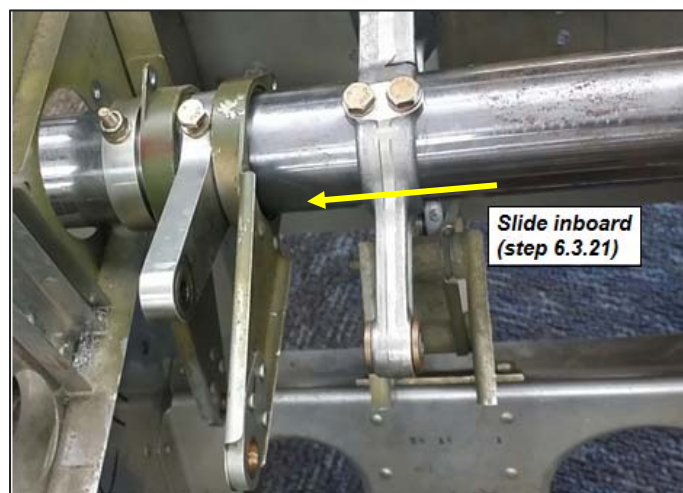

Figure 14. Torque Tube Slid Toward the Copilot Seat
6.3.21 Slide the collective torque tube inboard toward the copilot side (Figure 14).